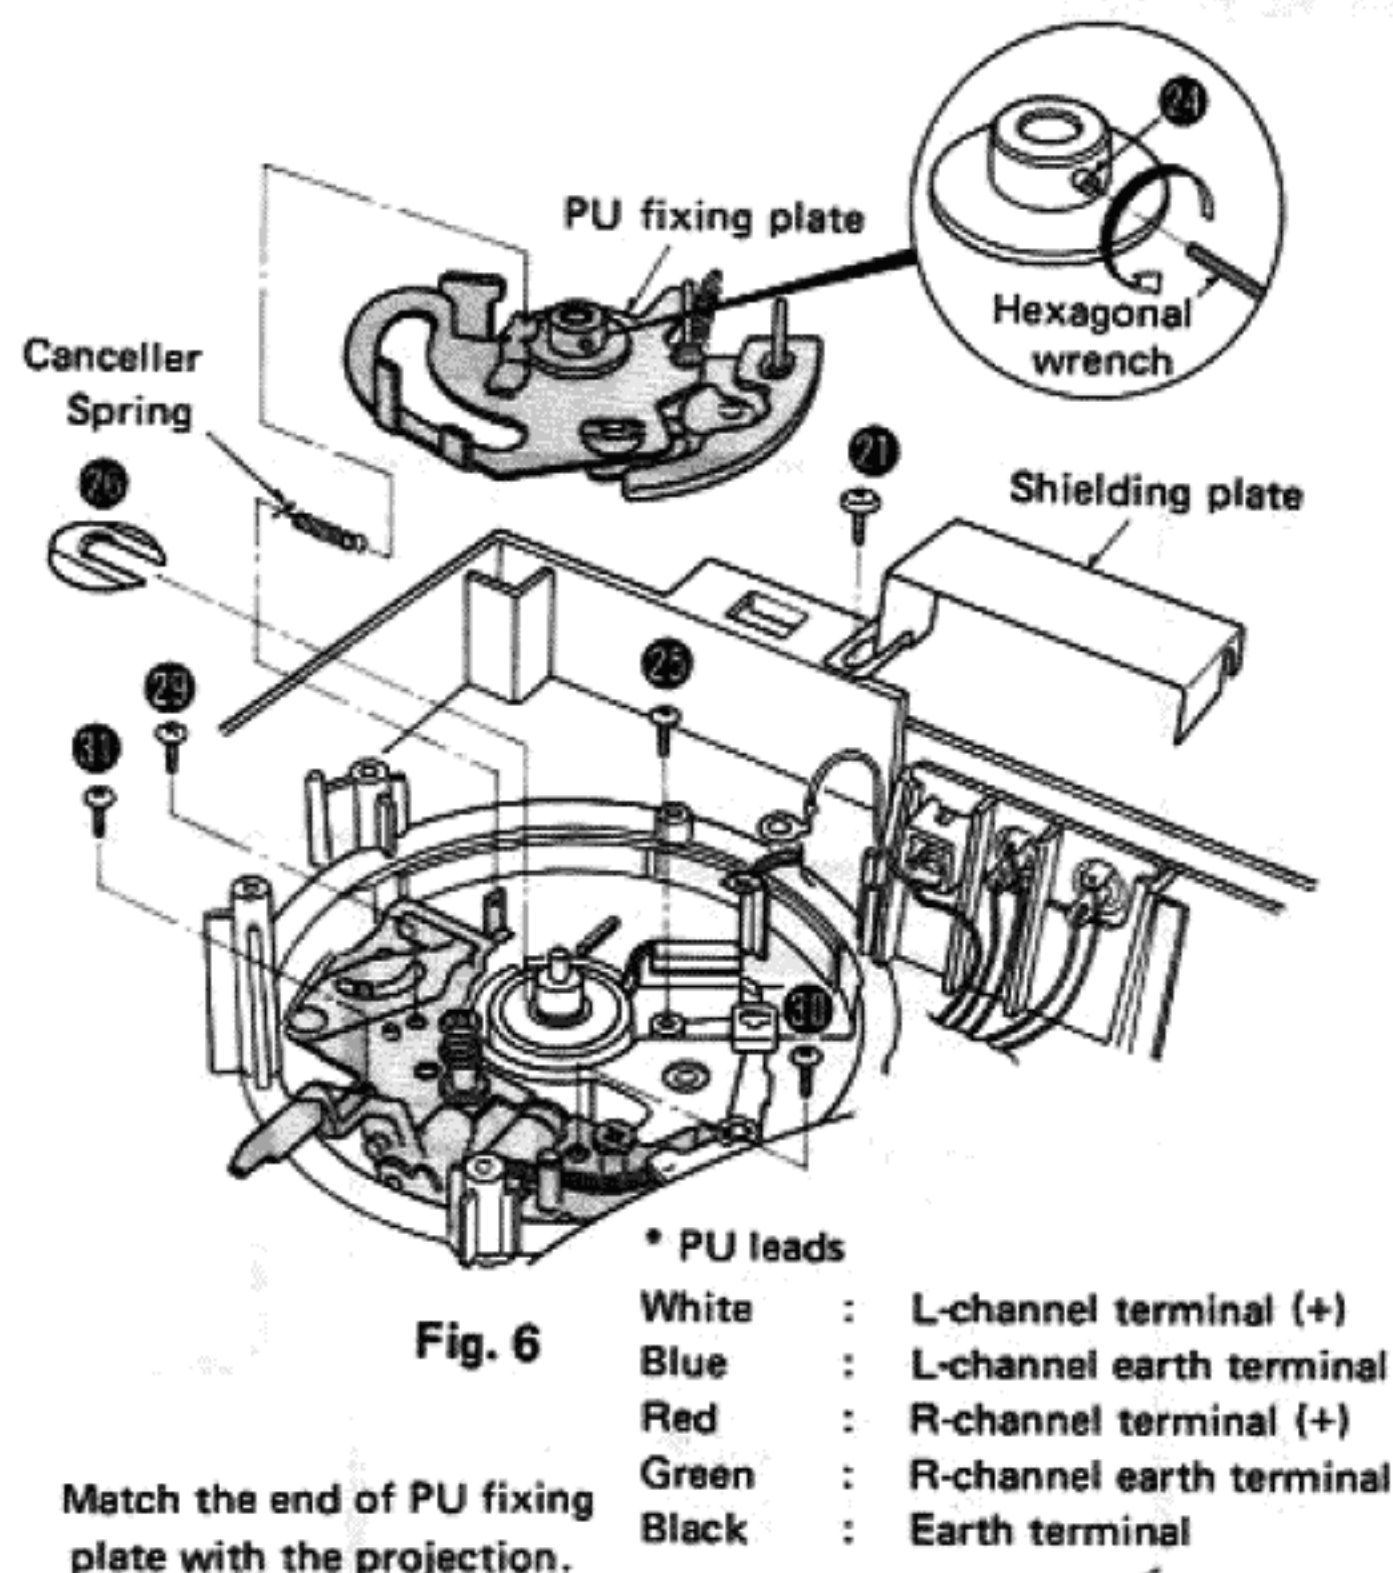

Fig. 6
2. Remove the canceller spring from the PU fixing plate, and loosen the screw ④ with a hexagonal wrench. (Fig. 6)
4. Remove the PU lead wire arranging plate setscrew (Fig. 6: ⑤) and stopper (Fig. 6: ⑥). Then the tonearm can be removed.
4. Remove the 3 setscrews (Fig. 6: ⑨~⑪) of the lift base.